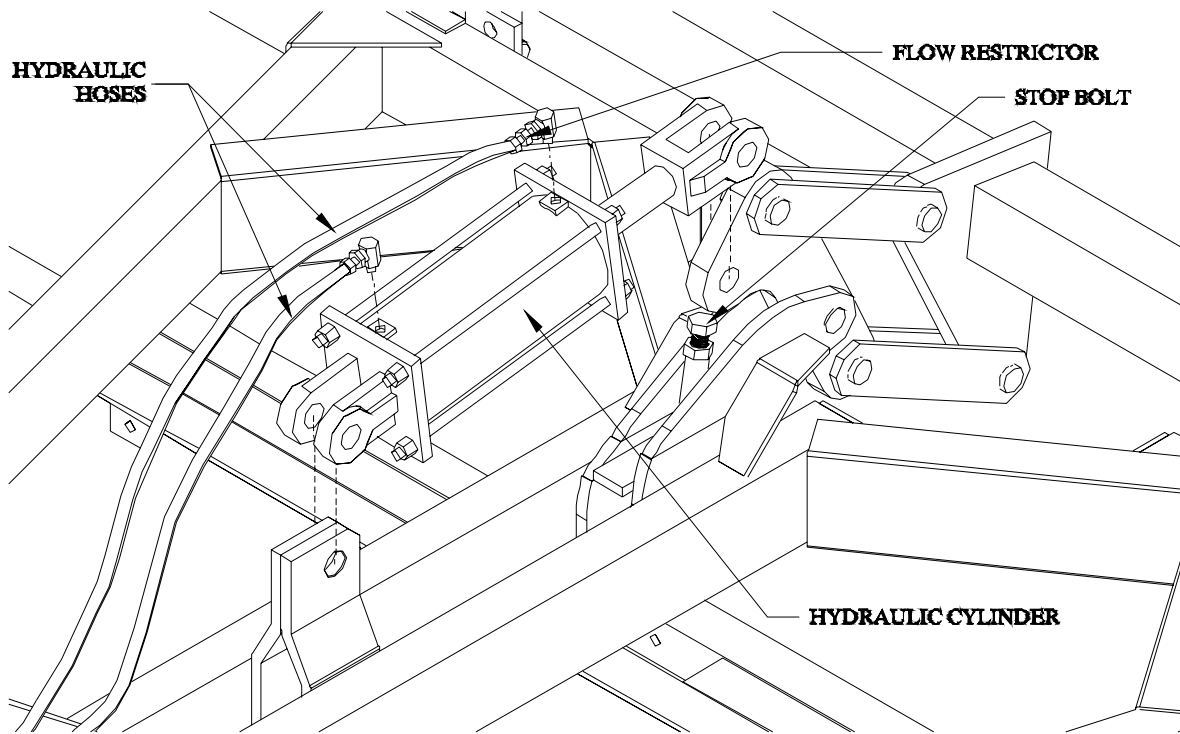

Figure 5
Assemble the hydraulic system as shown in Figures 5 and 6 on the next page.
5. Adjust the stop bolt (shown in Figure 5 on page 16) so that when the wings are swung forward, they hit the wing rest landings as shown in Figure 20.